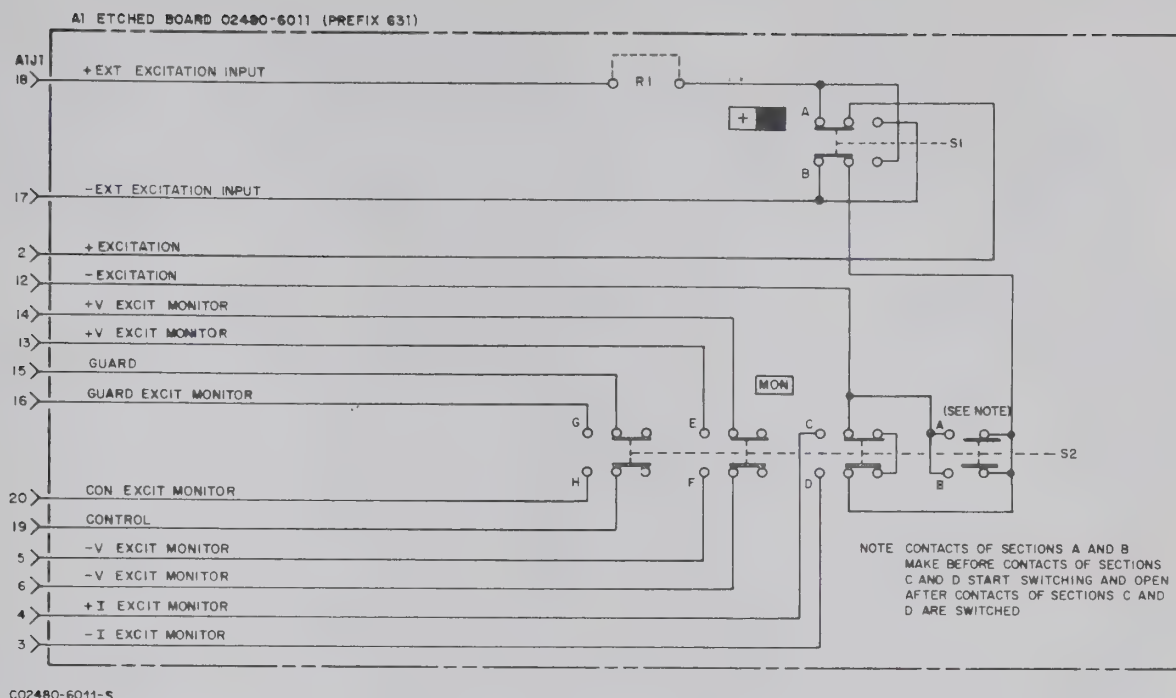

FIGURE 4-3 HP-2480K EXCITATION COUPLER
The Excitation Coupler (Figure 4-3) replaces the basic HP-2480A DC Excitation Source as described in paragraph 1-4.
- Figure 4-3 HP-2480K Excitation Coupler